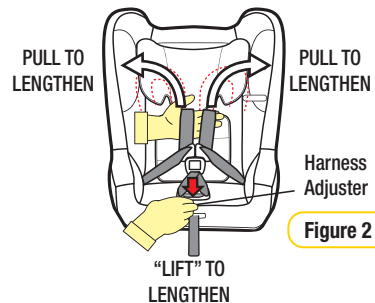

Figure 2
**Step 2:** To lengthen the harness “LIFT” the harness adjuster (refer Figure 2) whilst grasping both shoulder harness straps and pulling. Ensure shoulder straps are pulled equally on each side.